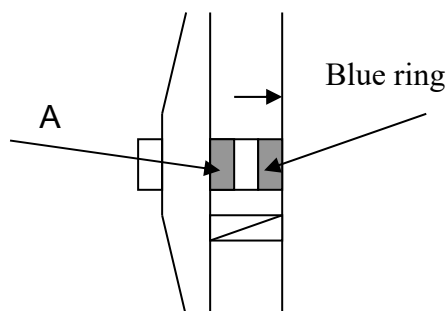

Figure 15
- F. Close the door and turn the door knob clockwise and see “A” parts to touch the “Blue ring” as Figure 15.